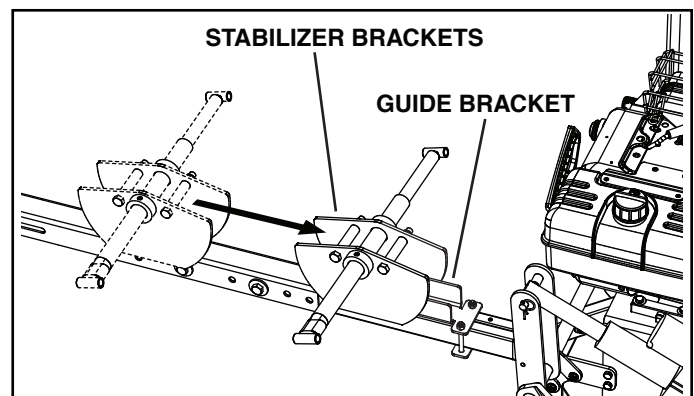

FIGURE 27
41. Roll the ATV up behind the snow thrower, keeping the push channel centered between the stabilizer brackets. Make sure the guide bracket will slide in between the stabilizer brackets as shown in figure 27. Keep a minimum clearance of 3"-4" between the front of the ATV and the snow thrower.